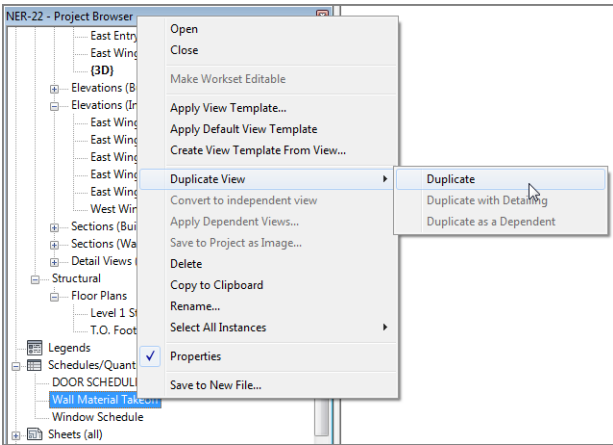

FIGURE 11.31: Duplicating the schedule
1. In the Project Browser, right-click Wall Material Takeoff, and select Duplicate View ➤ Duplicate, as shown in Figure 11.31.